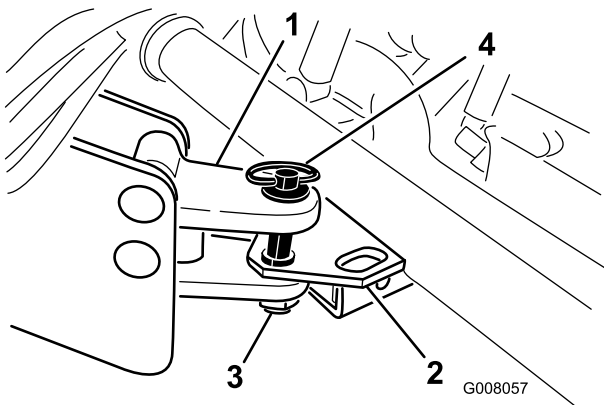

Figure 18
2. Adjust the processor hitch tongue to the same level as the vehicle hitch (Figure 18).
3. Connect the processor hitch to the vehicle hitch with a hitch pin and lynch pin (Figure 18).